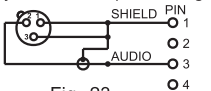

Fig. 23
3. Dynamic Microphone. Fig. 23: